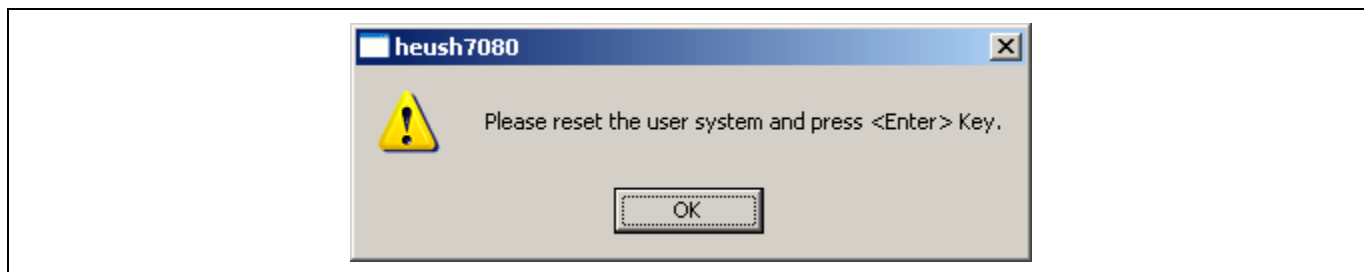

Figure 3.5 Dialog Box to request the Reset signal input
- (9) Following dialog box will appear. Leave the dialog box, and turn ON the power for the CPU board. Then, press the reset button on the CPU board and click "OK" on the dialog box as shown in Figure 3.5.
Note: If the reset signal cannot be detected, the dialog box below will appear. Click "Retry", and press the reset button on the CPU board. The window as Figure 3.5 will appear, and press the reset button on the CPU board again.